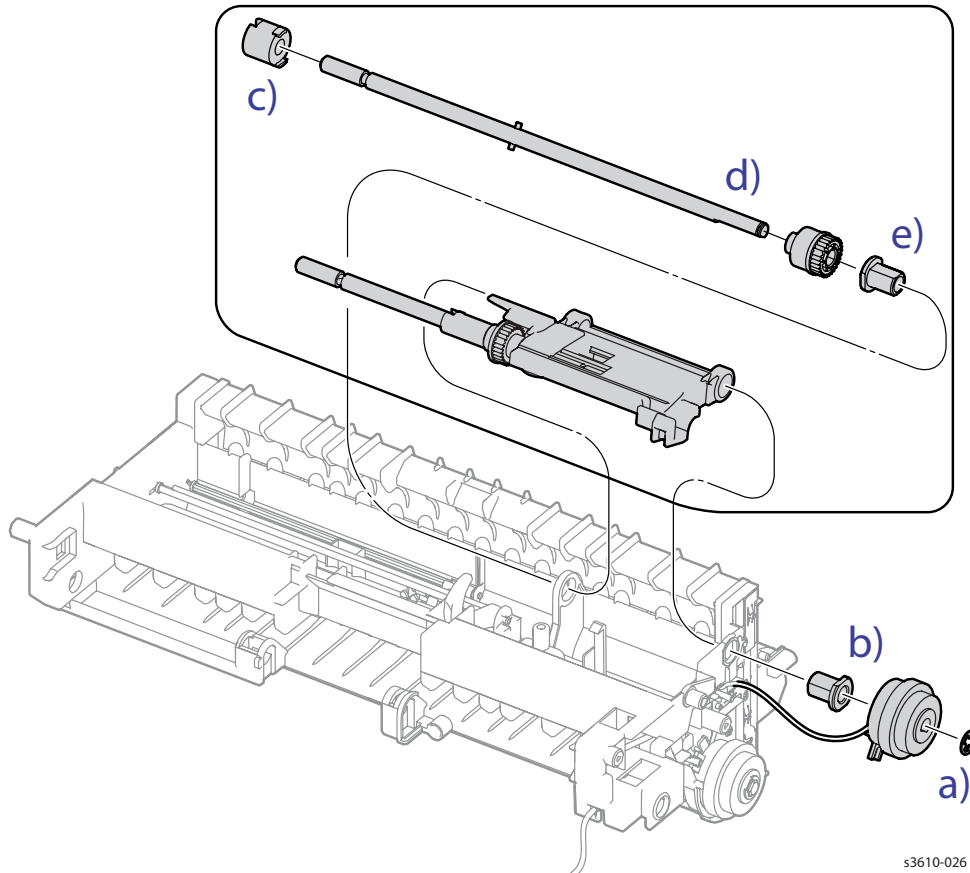

Figure 2
3. Remove the Feeder Assembly. (Figure 2)